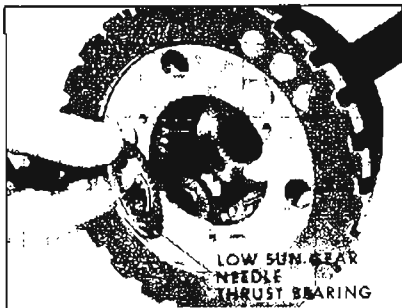

Figure 5-267
8. Install low sun gear needle thrust bearing. See Figure 5-267.